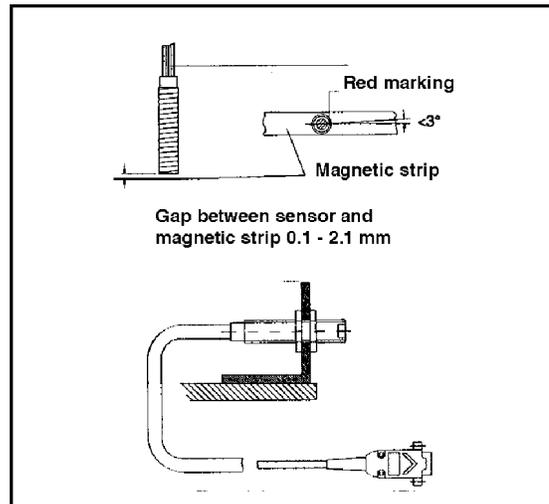

Figure 5-16. Sensor strip setting.
- 3) Verify the gap for the sensor strip is set correctly, according to Figure 5-16, and the index mark is horizontal to the sensor strip.